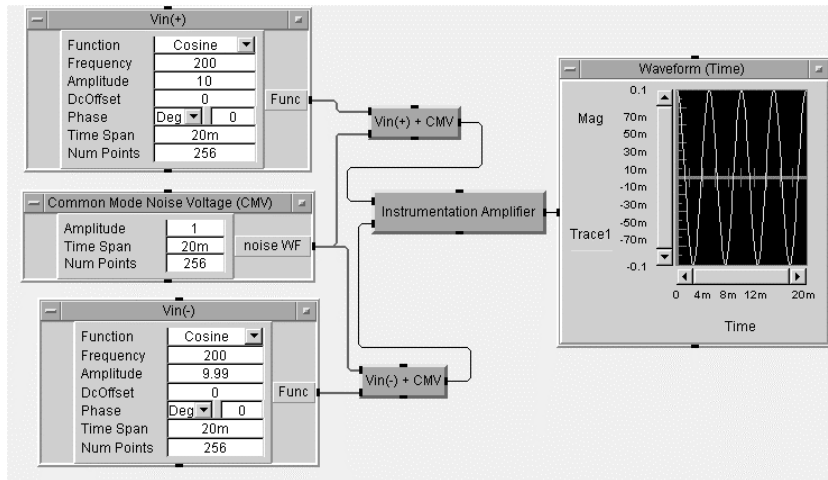

Figure 12.2. Display of a common mode voltage
(See Figure 12.2, page 12.4 for labeling and connection verification.)
29. Run your program; note the scope amplitude change. See Figure 12.2.